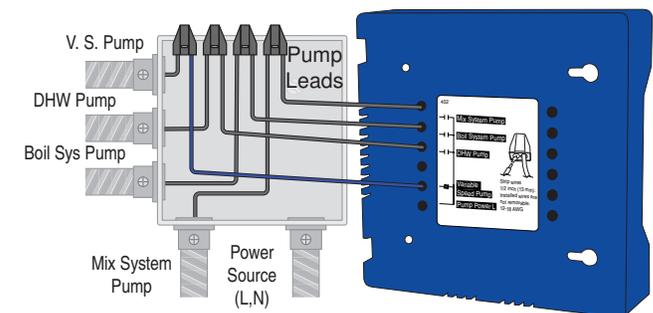

Figure 4 - Connect Pump Line (Hot)
4. Wire the remaining pump wires from each pair into the push-in wire connectors attached to the pump leads on the back of the House Control. This is shown in Figure 4.